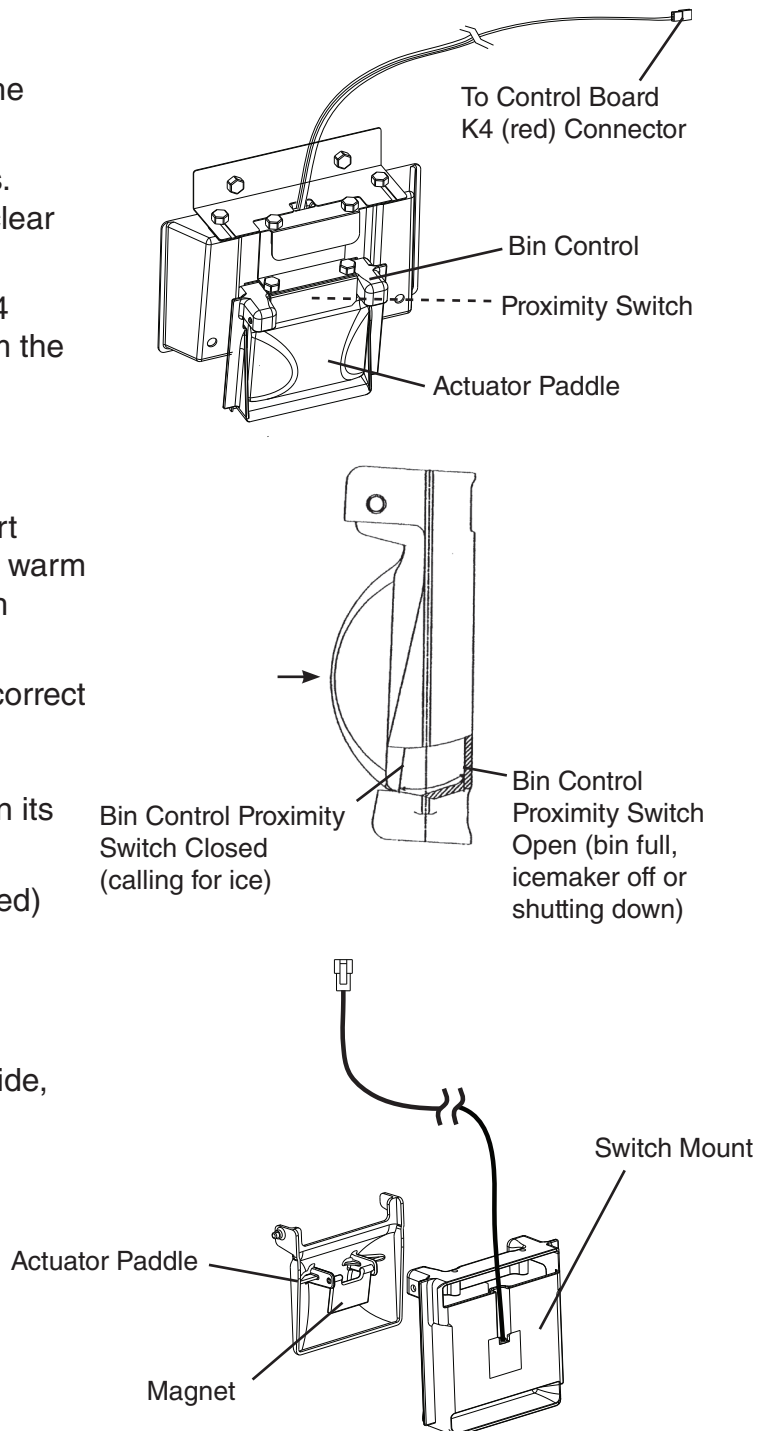

Fig. 1
- 4) Check BC wire harness connections. See Fig. 1.
- 5) Remove the actuator paddle from the switch mount. See Fig. 1.